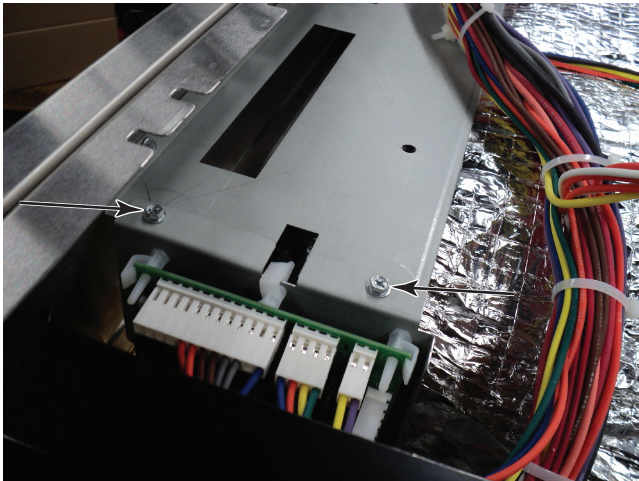

Figure 11
11. Remove two main board bracket mounting screws (Figure 11).